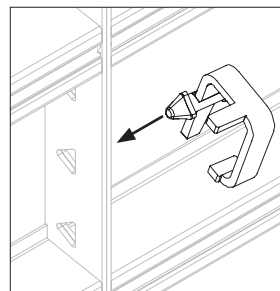

Fig. A4.01a
1. Use the triangular slots in the panel for fixing the wedge clip. (Fig. A4.01a)